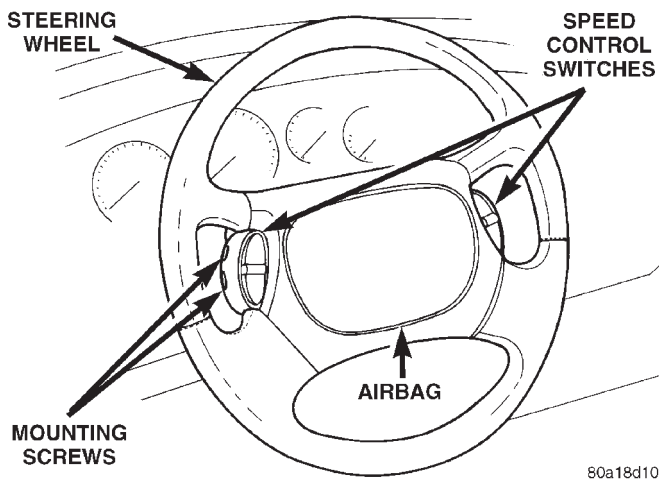

Fig. 8 Speed Control Switches
(9) Remove the speed control switches (Fig. 8) from the steering wheel. The speed control switches are mounted to the steering wheel using 2 mounting screws in the side of each speed control switch (Fig. 8).
(18) Connect the clockspring electrical leads to the speed control switches. Install the speed control switches in the steering wheel. Install and securely tighten screws attaching the speed control switches to the steering wheel (Fig. 8).